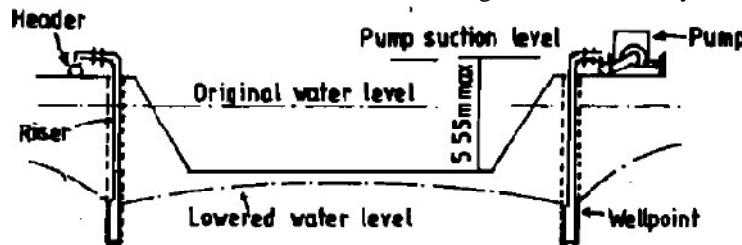

Figure 4-Wellpoint on both sides of Wide Excavation
4) **Systems:-** It is common practice to add well points in "ring" or "progressive" systems. When digging trenches, the "Progressive system" is used. As more well points are drilled and connected ahead of the section where water is being pumped out, the pipes are placed along the sides of the excavation. The pumping process continues in one area as the well points are added and the space is filled back in once it's completed. Figure 4 shows an example of this setup.